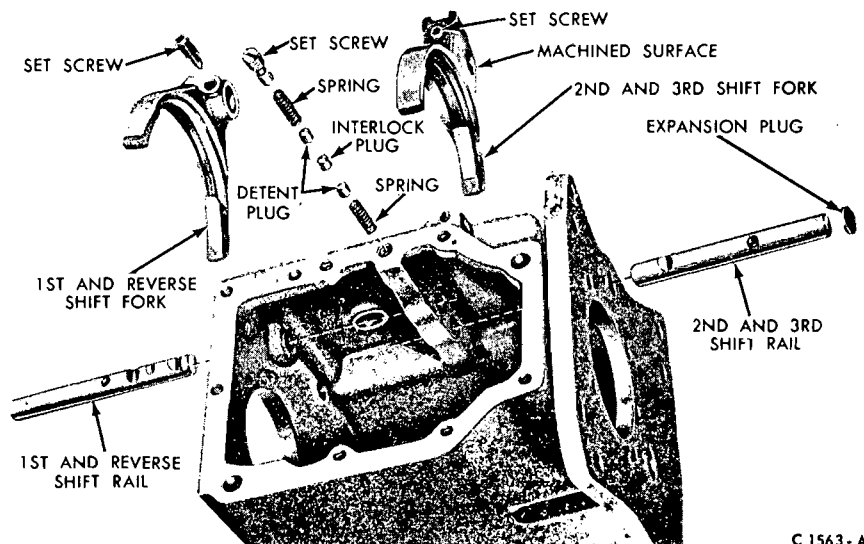

FIG. 9—Shift Rails and Forks— Disassembled
11. Remove the set screw (Fig. 9) that retains the detent springs and plugs in the case. Remove the detent spring and plug from the case.
15. Lift the interlock plug (Fig. 9) from the case with a magnet.
16. Tap on the inner end of the second and third shift rail to remove the expansion plug (Fig. 9) from the front of the case. Remove the shift rail.